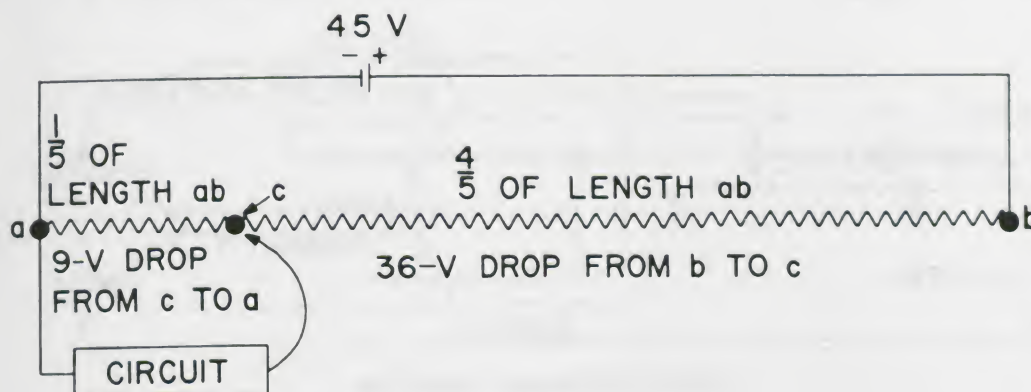

Figure 22.
**Solution.** The ratio of the total voltage (45 V) to the total length of wire  $ab$  is the same as the ratio of the required voltage (9 V) to the length  $ac$ . See Figure 22.